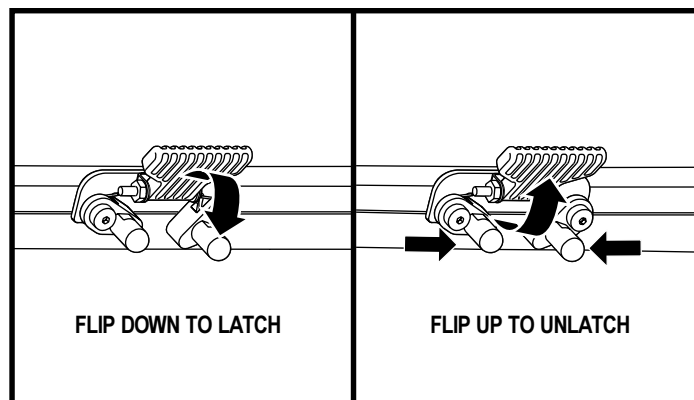

Figure 13. Seat Latch Safety
5. Flip the seat latch safety down. See figure 13.
1. Flip up the seat latch safety. See figure 13.
The Quantum 1107 power base disassembles into six parts for easy transportation and storage. See figure 13.